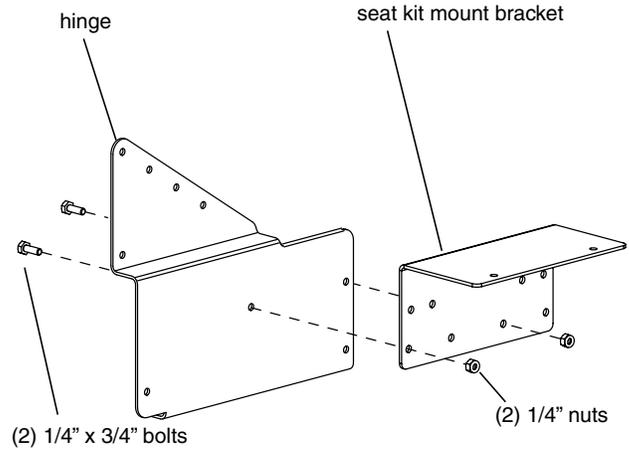
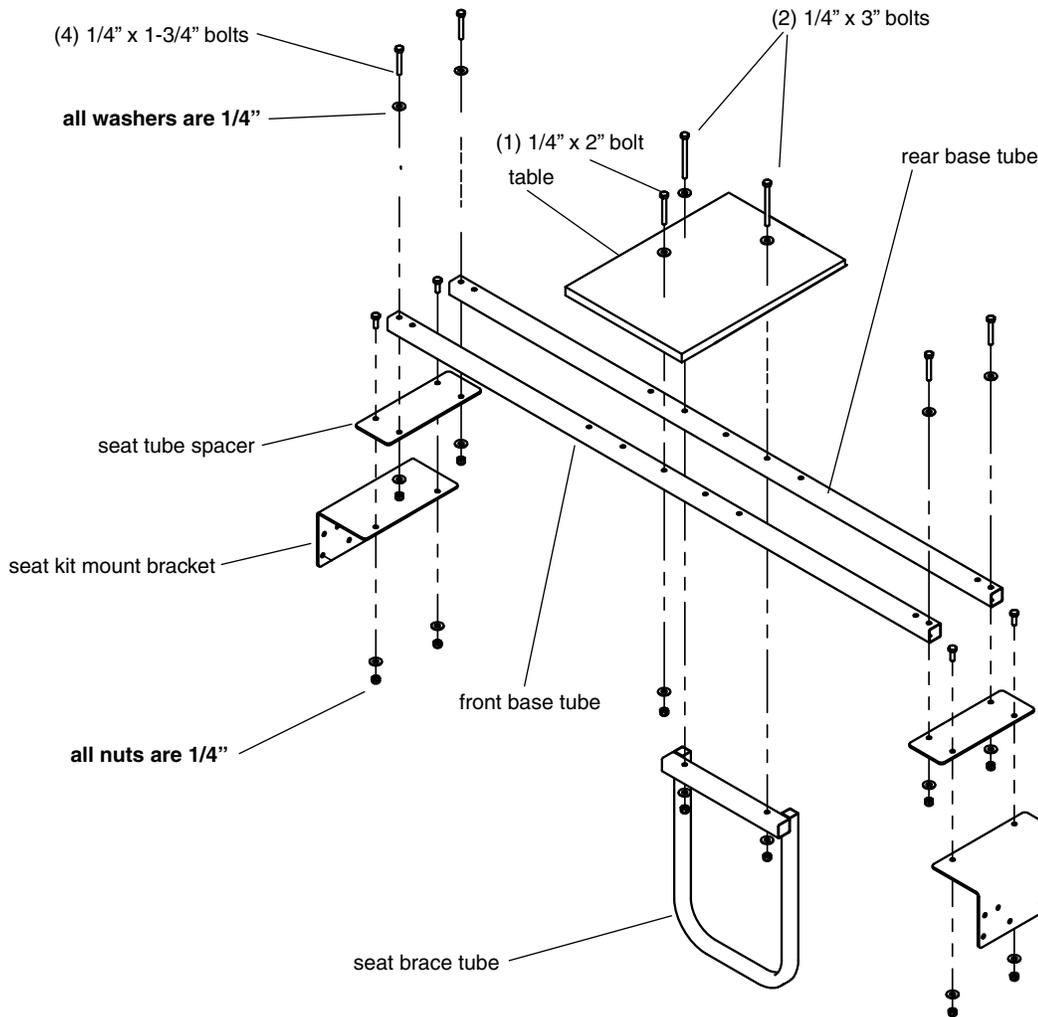

FIGURE 2 (right side shown)
FIGURE 3A
1. Attach (2) seat kit mount brackets (68430) to each hinge assembly using (4) provided 1/4-20 x 3/4" hex head bolts and nyloc nuts. Make sure the mount brackets are positioned in the correct hole locations so seat brace and seat positions are correct later in instructions. **SEE FIGURE 2.**
2. Attach (2) seat tube spacers to each seat kit mount bracket using (4) provided 1/4-20 x 3/4" bolts, nyloc nuts and washers.
3. Attach (2) base tubes (68225) to the top side of seat tube spacers using (4) provided 1/4-20 x 1-3/4" bolts, nyloc nuts and (8) washers. **SEE FIGURE 3A.**
4. a. Attach table (68439) to top of rear base tube and seat brace (68172) to bottom of rear base tube using (2) provided 1/4-20 x 3" bolts, nyloc nuts and (4) washers. **SEE FIGURE 3A.**
NOTE: Seat brace should be oriented so cross tube is to the front of ice shelter. SEE FIGURE 3A.
- b. Attach front of table to front base tube using (1) provided 1/4-20 x 2" bolts, nyloc nut and (2) washers. **SEE FIGURE 3A.**